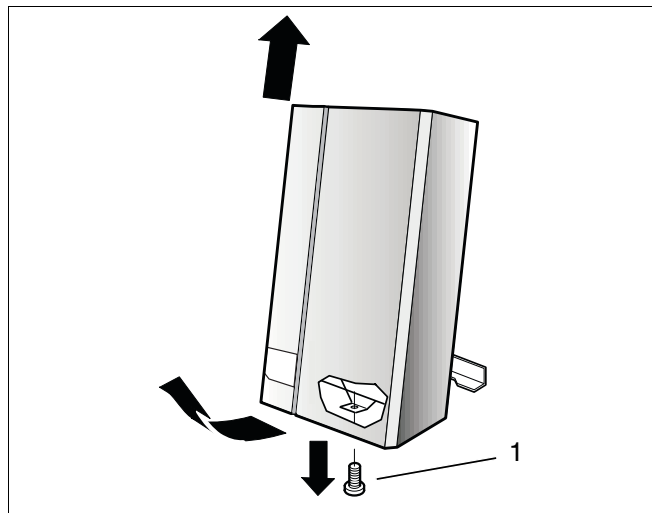

Fig. 46 Remove outer casing
- Loosen the fixing screw (fig. 46, item 1).